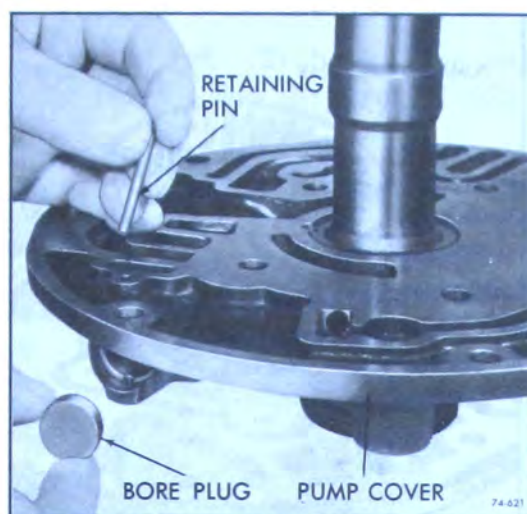

Figure 74-624
8. Remove the retaining pin and bore plug from the pressure regulator bore. See Figure 74-624.